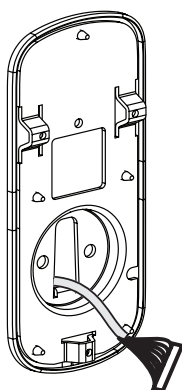
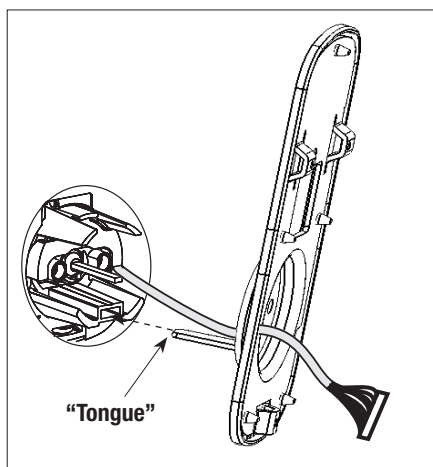

Figure 4A
Figure 4B
4. Holding the outside escutcheon flush to the door, position the inside mounting plate by first routing the cable and connector through the mounting plate's 1/2" hole (Fig. 4A) and then inserting the mounting plate "tongue" into the bottom slot of the outside escutcheon (Fig. 4B).